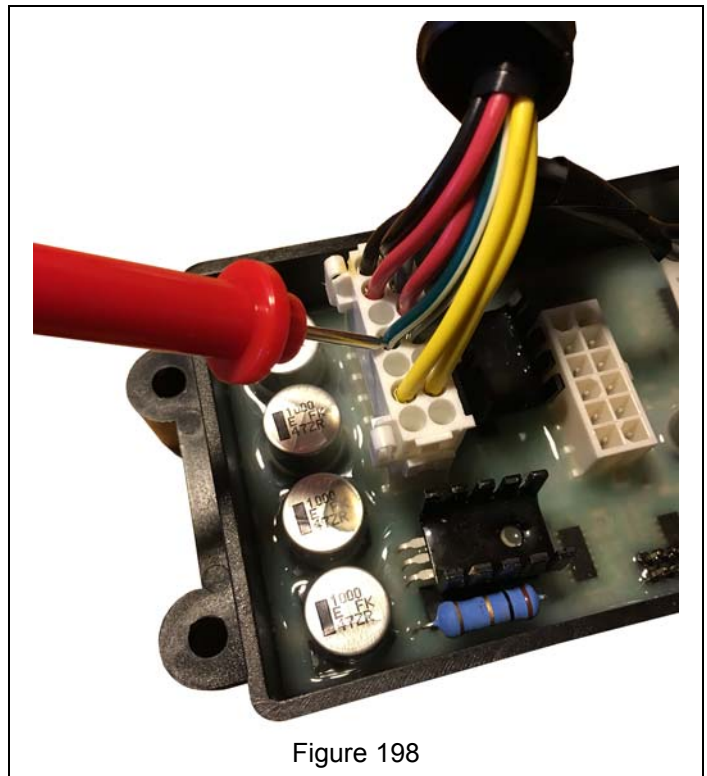

Figure 198
3. With a multi-meter, measure the V DC of the green / white wire. See Figure 198.